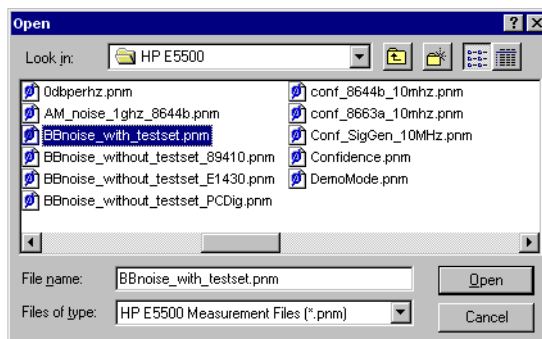

Figure 14-1 Select the Parameters Definition File
- 3 In the **File Name** box, choose “**BBnoise_with_testset.pnm.**” See Figure 14-1.